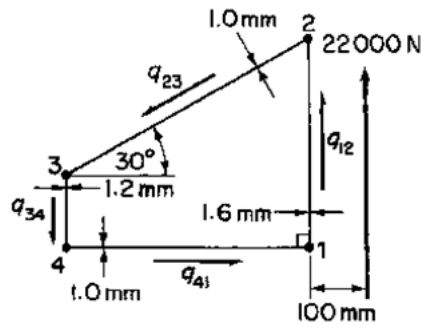

Figure 1
- (b) Calculate the shear stress distribution at the built-in end of the beam shown in Figure 1 when, at this section, it carries a shear load of 22000N acting at a distance of 100mm from and parallel to side 12. The modulus of rigidity  $G$  is constant through out the section and the wall length dimensions are given in Table 1. [BL: Apply| CO: 5|Marks: 7]